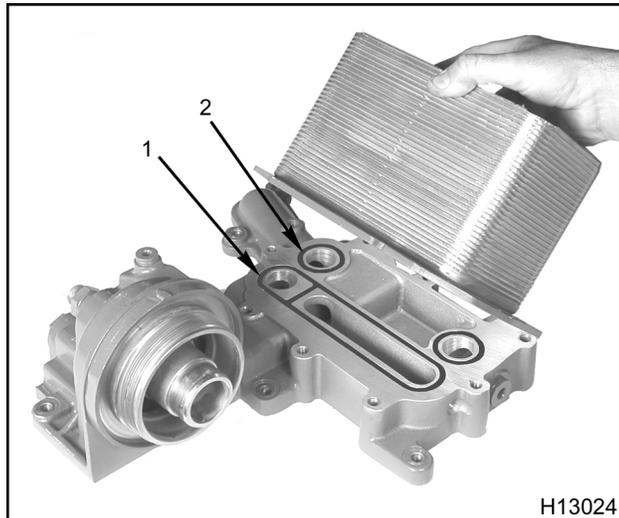

Figure 2. Heat Exchanger Seals
8. Remove and discard the oil seal and two coolant seals shown in Figure 2.